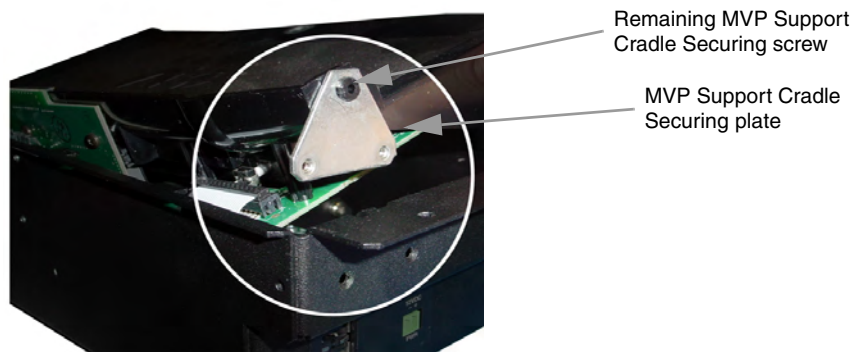

FIG. 24 Sliding out the battery cover/support cradle combo
5. Carefully slide the black pivot cradle combo unit (battery cover/support cradle) up from the metallic housing and use the screwdriver to remove the remaining screw from the securing plate (shown in FIG. 24).
5. Use the screwdriver to install one of the previously removed MVP Support Cradle Securing screws to the securing plate (shown in FIG. 24 on page 22).